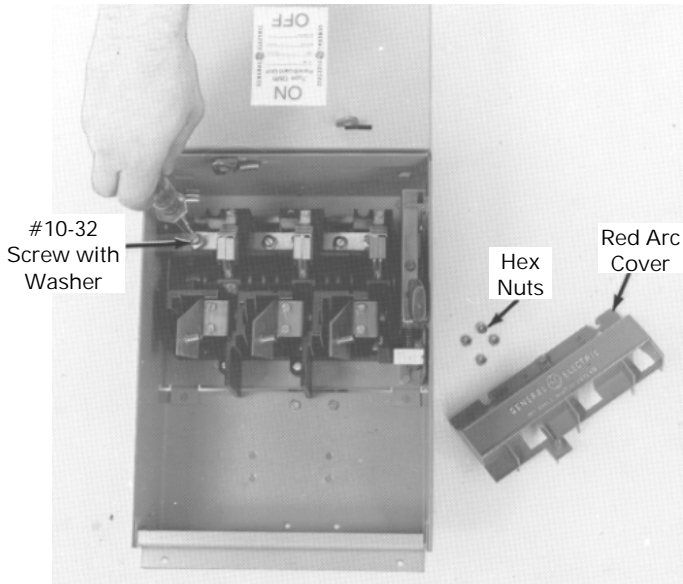

Figure 4. Installing the expansion plate into the enclosure.
- 4. Install the kit.** Remove and save the hex nuts from the studs and the red arc cover on the expansion switch, as shown in Figure 4. Install the expansion plate into the enclosure, positioning the switch base over the connecting straps. Install 10-32 screws with washers into the connecting straps inside the switch base. Tighten the screws to 27–32 in-lb.